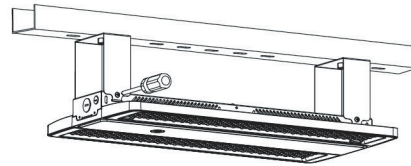

FIGURE 10
Step 2: Attach the fixture to the bracket and secure it with screws (Refer to Figure 10).